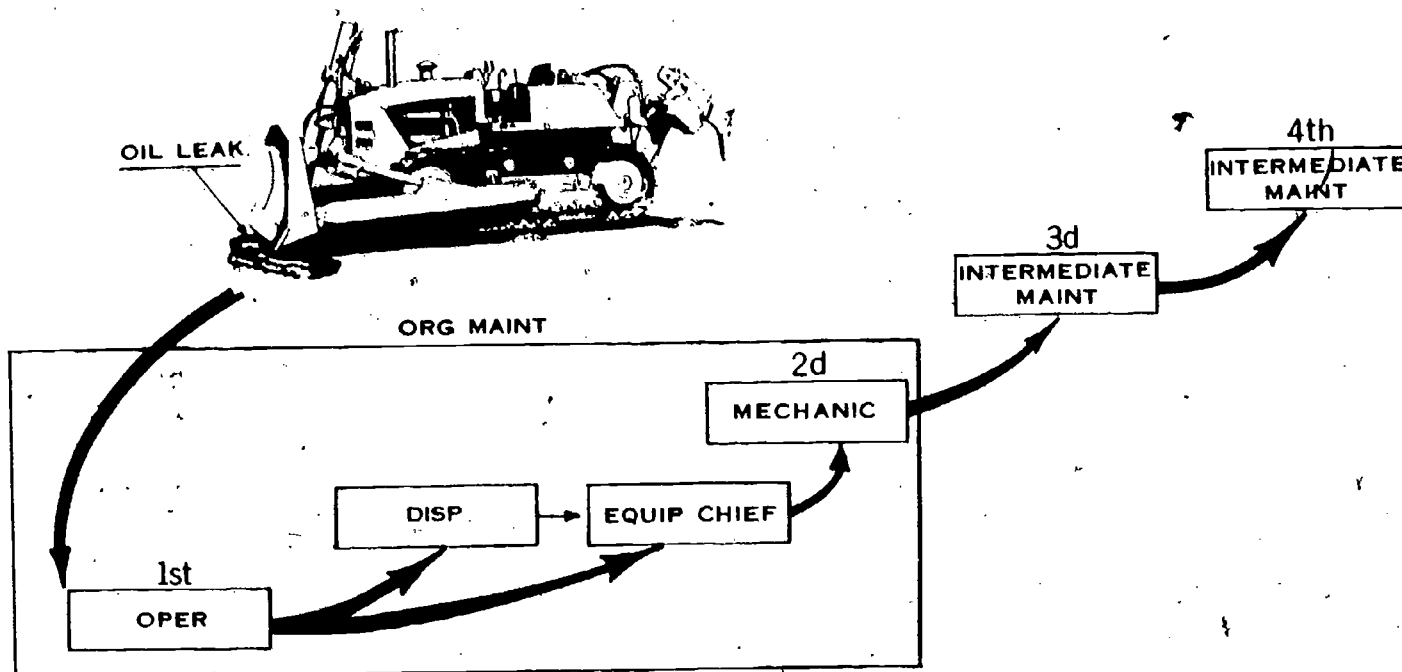

Fig 1-20. Equipment repair flow.
d. Example of maintenance system operation (fig 1-20). An equipment operator from engineer support company, division engineer battalion, noticed that when he inspected his Terex B3-30M crawler-tractor for the past few mornings that there has been a puddle of heavy dark oil beneath his tractor. He records the information about the leak on his operational record, and also verbally informs his section chief and the dispatcher. The dispatcher notifies the maintenance chief and the unit mechanics inspect the tractor, confirm a leaking seal, and write up a work order. The tractor is serviced, all organizational maintenance performed, and then is forwarded to 3d echelon maintenance, the division service battalion. Knowing that the work is beyond their capability, they in turn forward the tractor and work order to the FSR, which performs the work and returns the tractor and completed work order back through the various echelons of the maintenance system to the using unit.